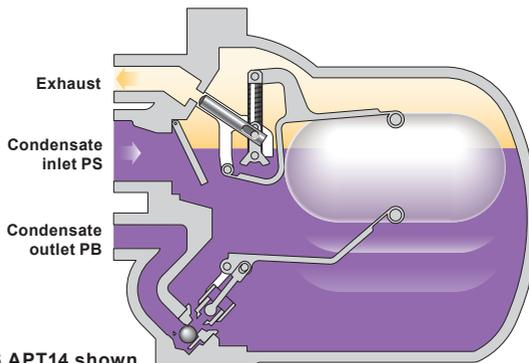

Fig. 6 APT14 shown
Step 2 (Figure 6)
With some temperature controlled equipment, it is possible for the system pressure PS to be lower than the backpressure at PB (Figure 6).